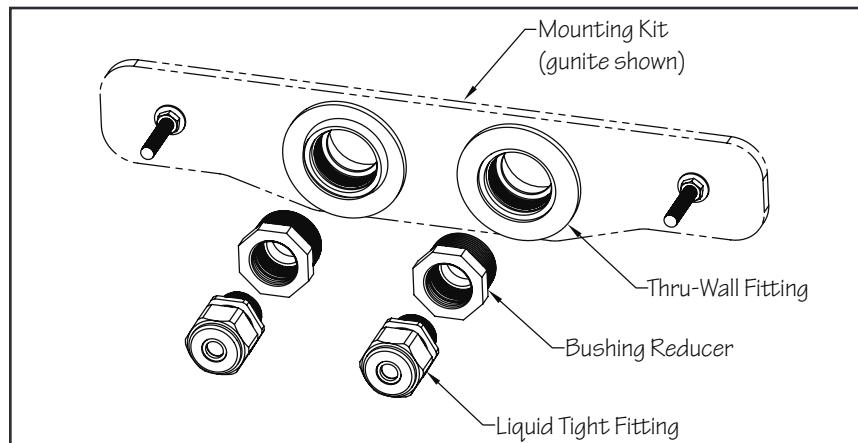

Fig. 7.1
7.1 Fill the pool up to operating level. The water level should be approximately 1-1/2 (38mm) below the threaded rods/threaded installed in the pool wall. Apply Teflon sealant to the threads of each bushing reducer and then thread them into the thru-wall fittings. Apply Teflon sealant to the threads of the liquid tight fittings and then thread them into the bushing reducers (Fig. 7.1).